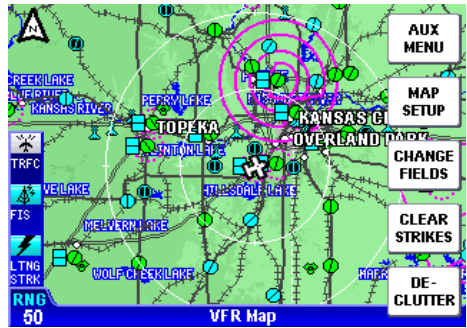
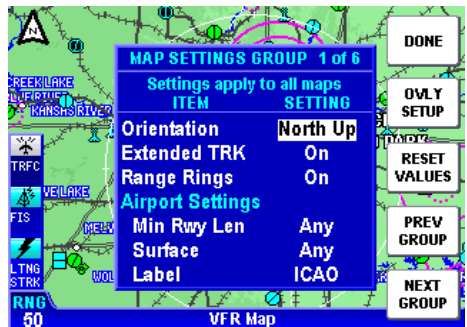

Figure 1-162
Figure 1-163
1. Press the **MENU** Key to display Figure 1-162. Press the **MAP SETUP** Softkey to display Figure 1-163. Use the Joystick to select the desired field and turn the Rotary Knob to make the desired changes.